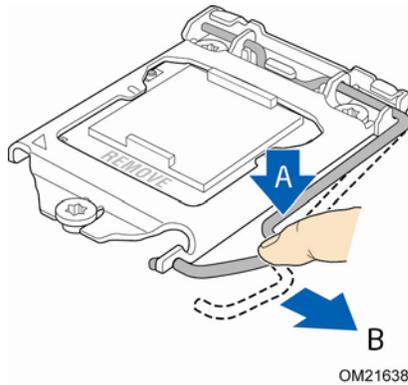

Figure 10. Unlatch the Socket Lever
2. Unlatch the socket lever by pushing the lever down and away from the socket (Figure 10, A and B).